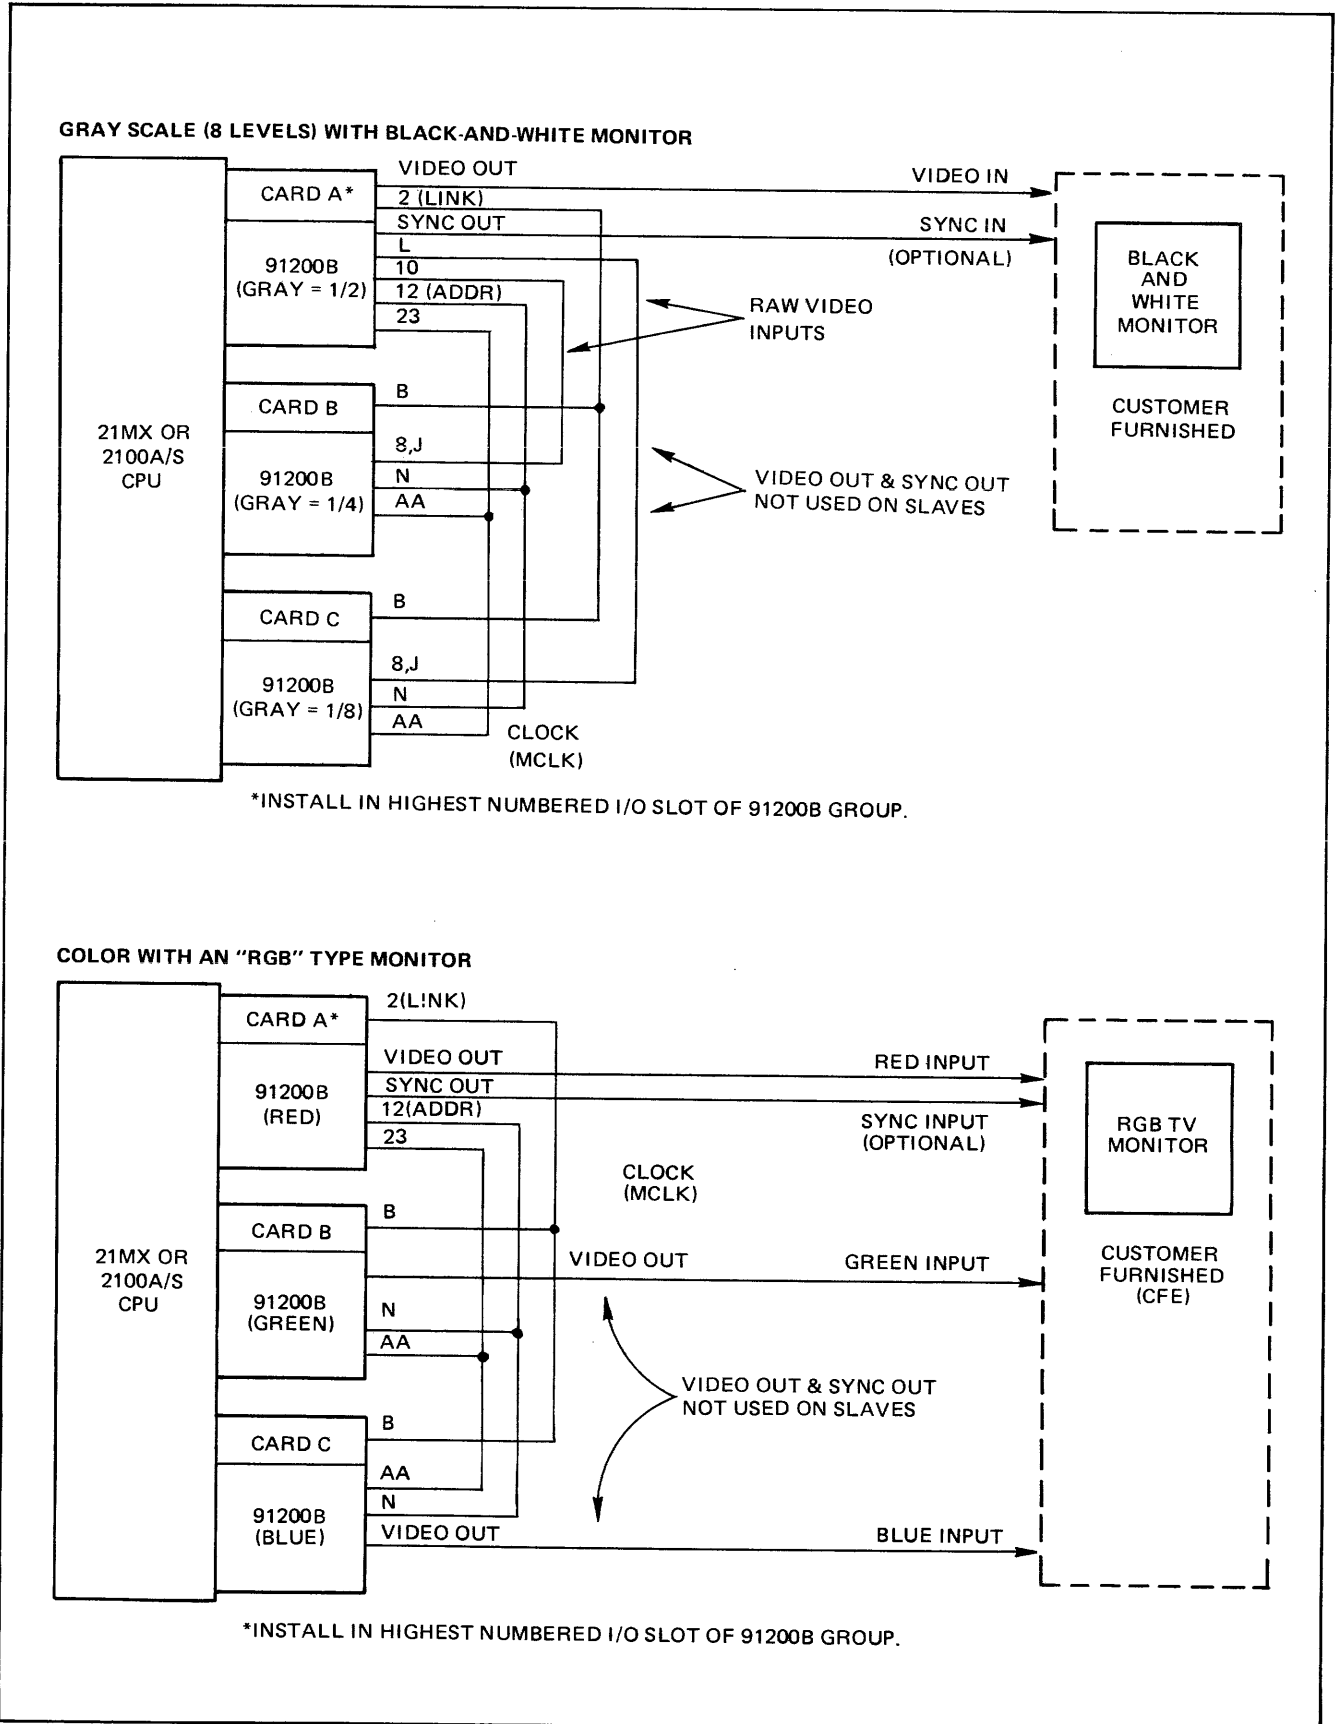

Figure 2-3. Multi-Level Gray and Color Installation Diagram
- g. Install TV interface cable 48-pin connectors on appropriate cards. Roll up and tie back or remove cables which are not used. Cabling is shown in figure 2-3.
2-17. Two or three cards must be used in multi-level gray operation. Four or eight levels of gray can be produced by two or three cards, respectively. The cards must sit side by side in either the computer I/O card cage or I/O extender. The master card (designated as card A) must be placed in the highest numbered slot of the group and will be addressed by the select code (or LU number in RTE systems) assigned to the TV interface subsystem. The master card is followed in descending order by slave card B and slave card C. The card and cabling setup is shown in figure 2-3. Perform the following procedure to install multiple gray level cards:
- g. Install TV interface cable 48-pin connectors on appropriate cards. Roll up and tie back unused cables, or remove cables if their future use is unlikely. Cabling is shown in figure 2-3.